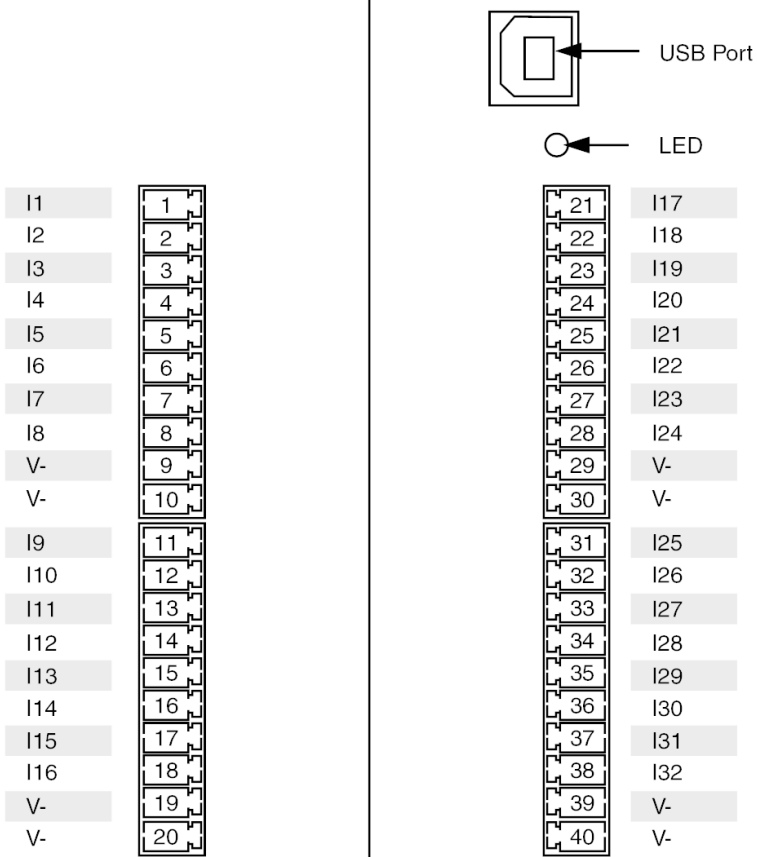

Figure 4 U2122A Pin Assignment
- **U2122A** 32- Terminal Digital Input (Figure 4)